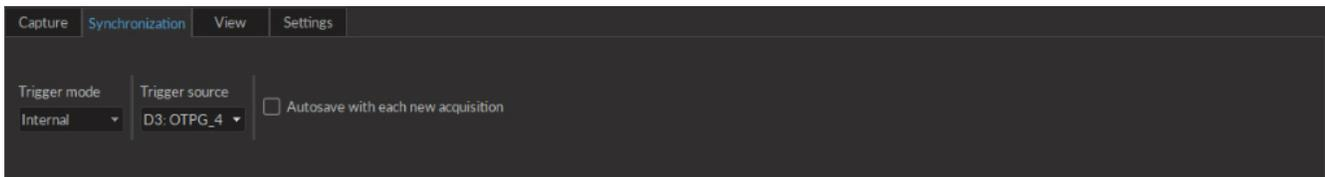

Figure 3.4: Camera Module - Synchronization Tab
- The **Synchronization** tab (Fig. 3.4) contains the controls related to synchronization with other Doric devices. The software will allow for the synchronized triggering of the experiment. To synchronize the frame acquisition between the camera and the microscope, it is important to set the same frame rate in both devices (e.g. Camera FPS: 20 and Microscope exposure: 50 ms).